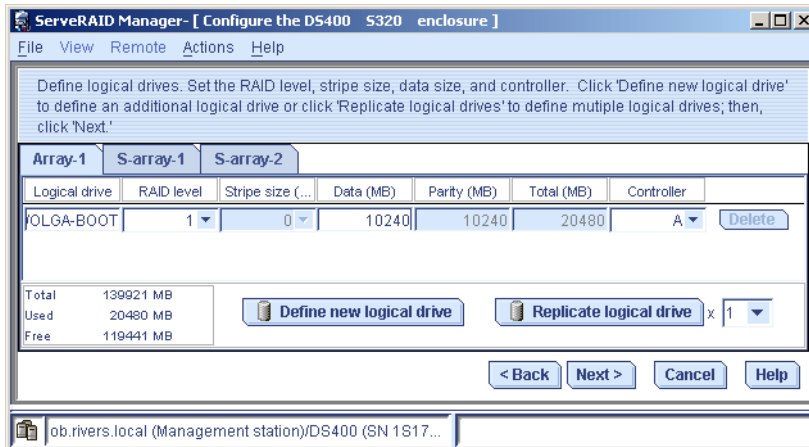
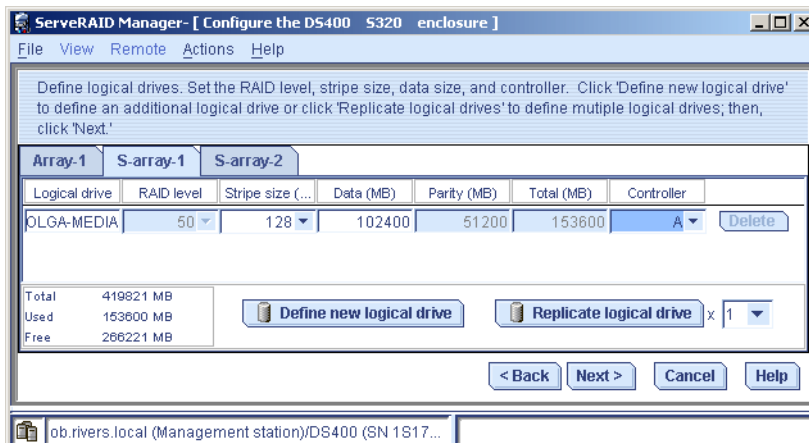

Figure 4-99 Create logical drives
Figure 4-100 RAID level
15. The window shown in Figure 4-99 on page 139 allows you to create logical drives in all defined arrays. The first logical drive in each array is already defined with the maximum logical drive size. Enter a meaningful device name. Select the RAID level. This RAID level is determined by the number of drives in the array. For a spanned array, the number of drives in the base array determines if a RAID 10 or 50 will be defined. Specify how large the logical drive will be. Choose the preferred controller.
16. In Figure 4-99, select **S-array-1**. Assign a meaningful device name for S-array-1. Figure 4-100 shows a logical drive named WOLGA-Media with a size of 100GB. The RAID level is automatically determined by the base arrays. Base arrays with more than 2 drives become a RAID 50 and arrays with at least and not more than two drives become a RAID 10. For logical drives in RAID 10 and RAID 50 arrays, the stripe size can be modified. Different strip sizes are available. 256KB is the default value. Define the size of the logical drive and the preferred controller. Select **S-array-2**.